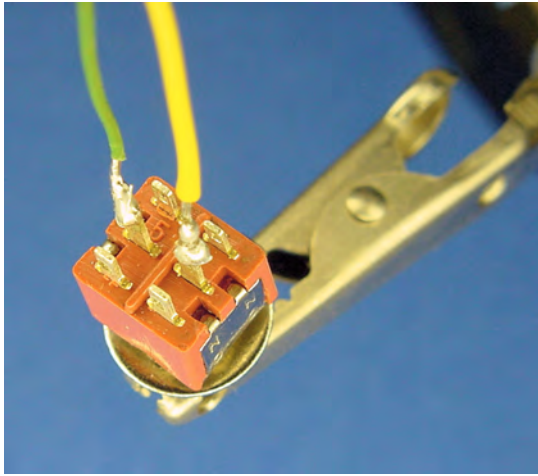

Figure 22-22. Left and right transistor outputs soldered to the switch's center terminals
7. Loop the green wire through the eyelet in a center terminal, twist the wire together, and solder (see Figure 22-22). This is the same technique used to connect wires to the motors.